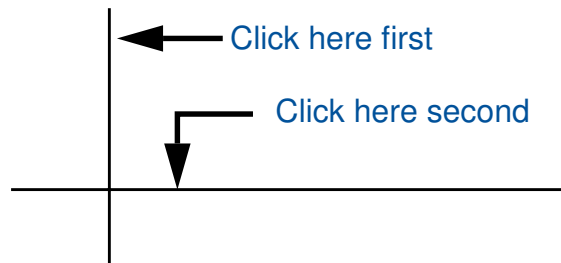

Figure 2-28. Creating a Chamfer at Lower-Left Corner
1. Choose the [**Shapes**] **Add Line > Chamfer** menu item. In the dialog box, Tab to the Distance prompt, and enter **0.2**. Press the Tab key three times to highlight the Clip Option prompt and click on the prompt arrows until **clip_both** displays. Press the Tab key (or the Shift-Tab key) until the From prompt is highlighted, then place the cursor on the left vertical line and press the Select mouse button. When you are prompted for the To point, place the cursor on the lower horizontal line and press the Select mouse button. Refer to Figure 2-28. When you are done, Cancel the prompt bar.